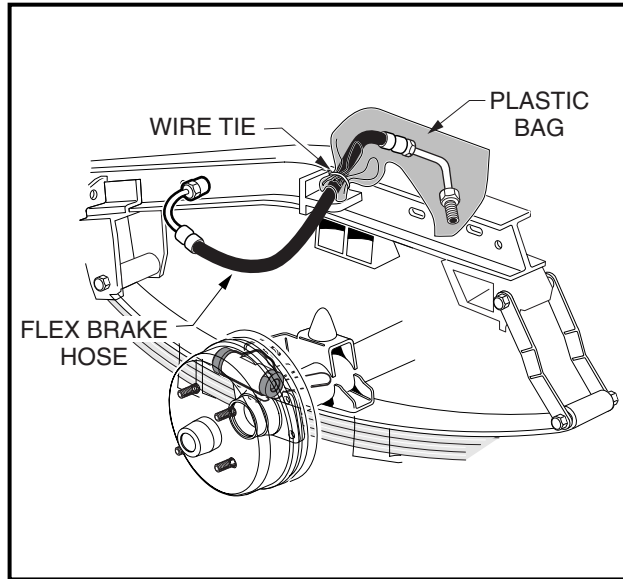

Figure 16-21 Cover Brake Hose Fitting
- 7.5. To ensure that no dirt or trash enters the hydraulic braking system, place the hose fitting in a plastic bag and secure to the vehicle frame (**Figure 16-21, Page 16-11**).